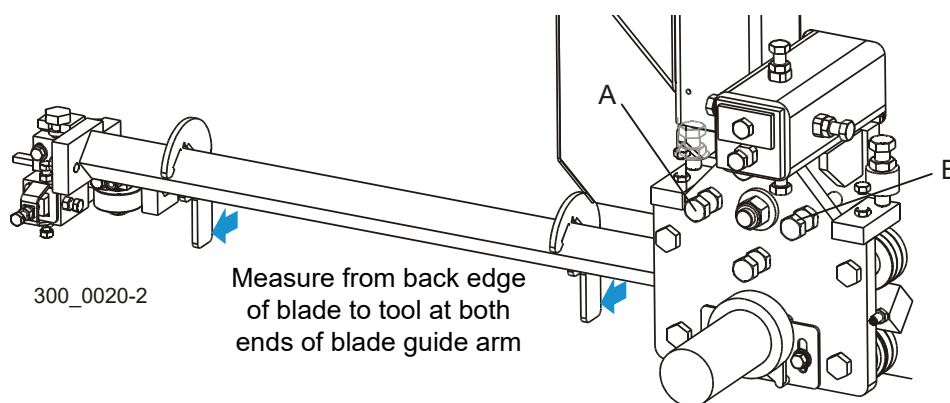

FIG. 6-13
See Figure 6-13. Attach the blade guide arm alignment tool to the blade guide arm, near the outer blade housing. Measure the distance from the back edge of the blade to the tool. Move the tool to the end of the arm near the blade guide. Measure again from the back edge of the blade to the tool. The two measurements at each end of the arm should be the same within $1/32"$. To adjust the horizontal tilt of the arm parallel to the blade, adjust the bolts (A & B) on the blade guide arm mounting plate. Loosen the jam nuts. Adjust bolt (A) out and bolt (B) in to move the arm away from the blade. Adjust bolt (B) out and bolt (A) in to move the arm toward the blade. Recheck the distance from the back edge of the blade to the tool at both ends of the arm. Readjust if necessary. Tighten the jam nuts.